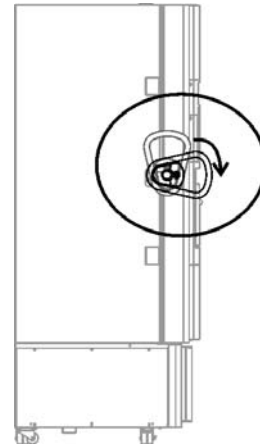

Figure 5-1
- Unlatch the handle of the freezer (figure 5-1).